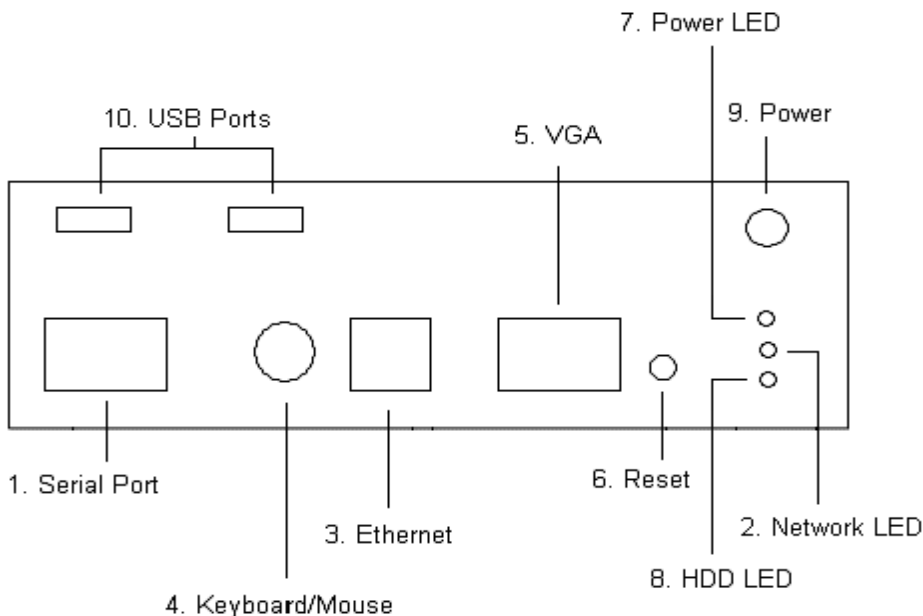

Figure 1. Front Connector Panel
Figure 1 specifies the connectors required for the cabling at the OmniDNC end. All cabling should be properly dressed to industrial standards.
1. If you are going to directly configure the OmniDNC, plug the keyboard, mouse, and monitor connectors into the appropriate ports and proceed to step 3 below. Refer to *Figure 1*, the *Connector Panel* illustration, and the *Connector Details* listing, below.
3. Plug the AC power cord into the Power receptacle on the OmniDNC and the Network cable to the Ethernet port. Refer to *Figure 1*, the *Connector Panel* illustration, below.